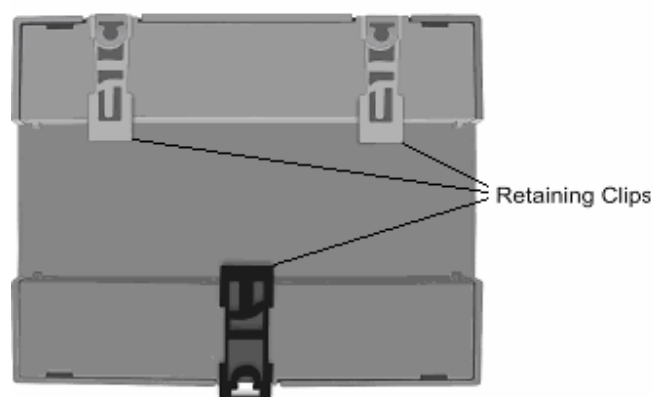

Figure 2: R-COM – Rear View
**Note:** The retaining clips are located on the R-COM's rear side, as shown in Figure 2.